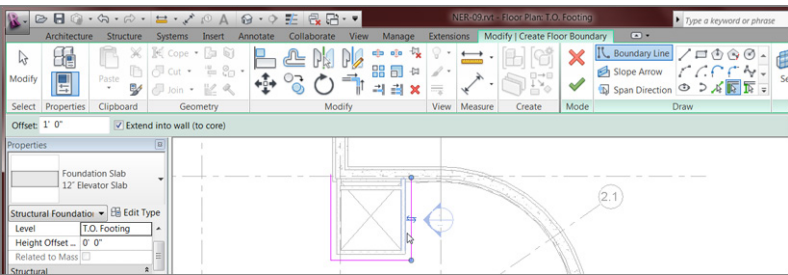

FIGURE 8.63: When picking the elevator shaft walls, be sure to include the 1'-0" (300mm) offset.
- 13. Pick the three elevator shaft walls, as shown in Figure 8.63.